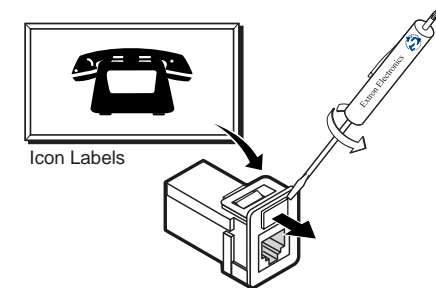

Figure 2-5 — Changing the connector icon
9. If desired, on the AAP panel, replace the connector icon by prying the old icon off of the bezel plug-in (figure 2-5) with a tweaker and snapping a new icon in place. If needed, four spare screws are stored in the underside of the enclosure.